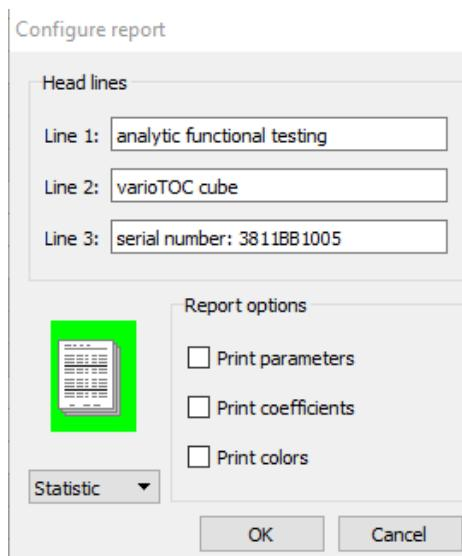

Figure 10: The report configuration window. “Statistic” is selected from the dropdown menu to the bottom left.
- 3.5.3.2 In the "configure report" dialogue box, select "statistic" from the dropdown menu on the lower left side, and click "OK" (Figure 10).